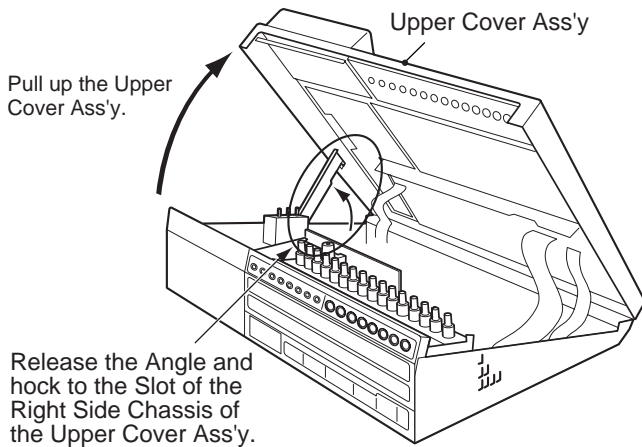

Fig. 2-2
- Referring to Fig. 2-2, pull up the Upper Cover Ass'y and hook to the slot of the Right Side Chassis of the Upper Cover Ass'y.